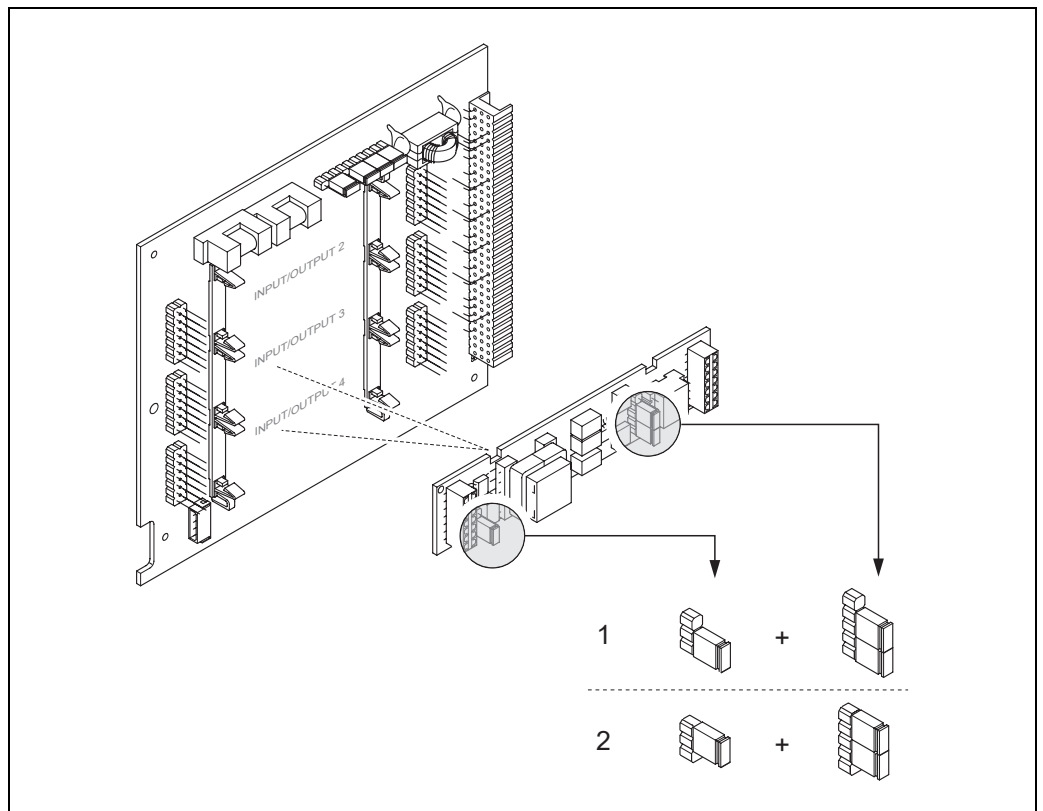

Fig. 53: Configuring the current input with the aid of jumpers (I/O board)
3. Position jumpers → Fig. 52, Fig. 53